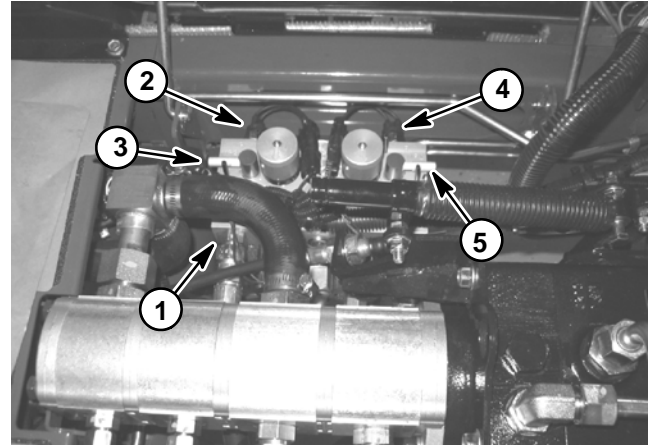

Figure 68
Removal (Figs. 68 and 69)
3. Locate the backlap switch on the mow control manifold that is to be replaced (Fig. 68).
Installation (Figs. 68 and 69)